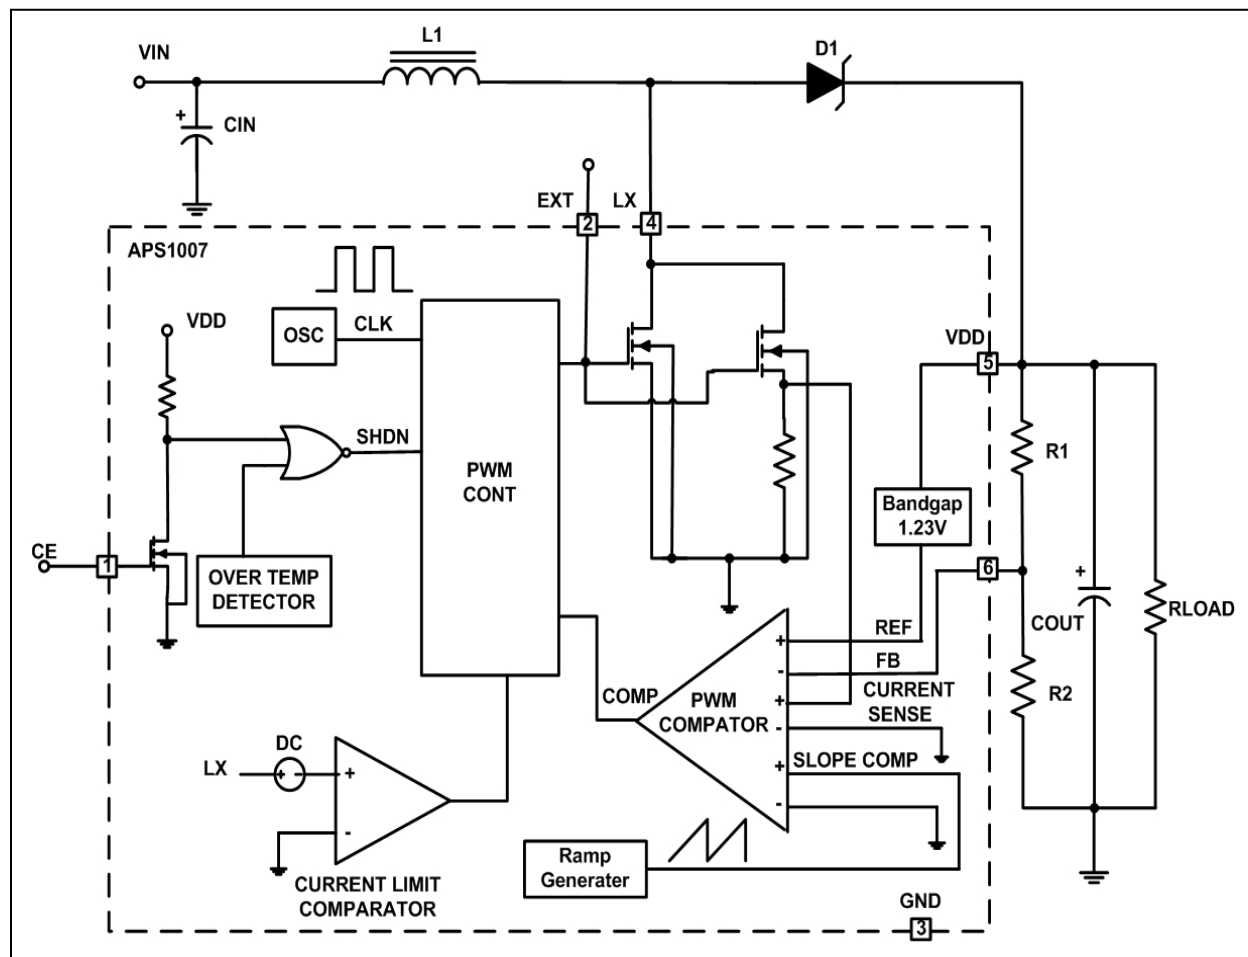

Figure 4. APS1007 Functional Block Diagram
**PWM MODE:** Refer to Figure 4, functional block diagram. The main gain block is a comparator that sums four signals: feedback voltage, reference, current-sensing and slope compensation ramp. This direct-summing method approaches the ideal of cycle-by cycle control of output voltage. Under heavy loads, the controller operates in full PWM mode. Every pulse from the oscillator sets the output latch and turns on the NMOS switch for a period determined by the duty factor and current limit.